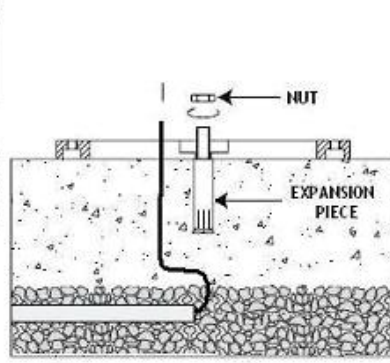

FIGURE 1
4. Locate the mains supply cable inside the base allowing enough surplus to connect into the terminal block (FIGURE 1).